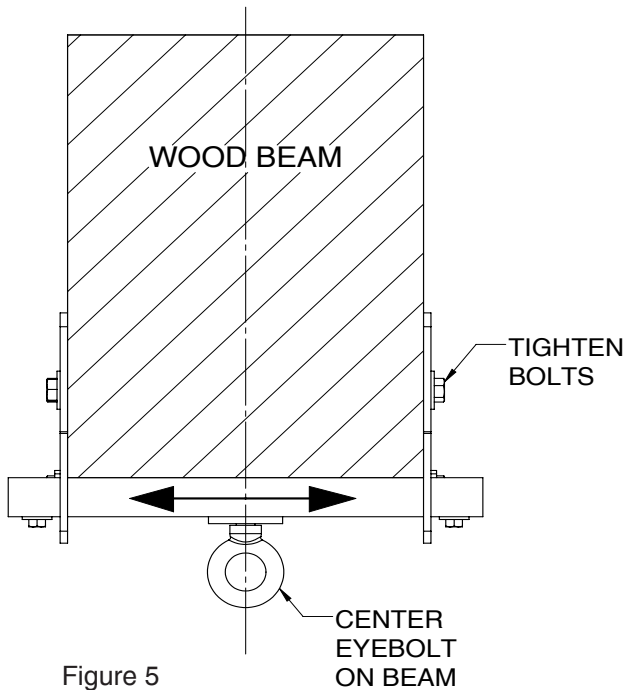

Figure 5
- Adjust and center the channel's swivel eye under the wood beam then tighten the bolts (Figure 5).
- Adjust and center the channel's swivel eye under the wood beam then tighten the lag bolts (Figure 5).